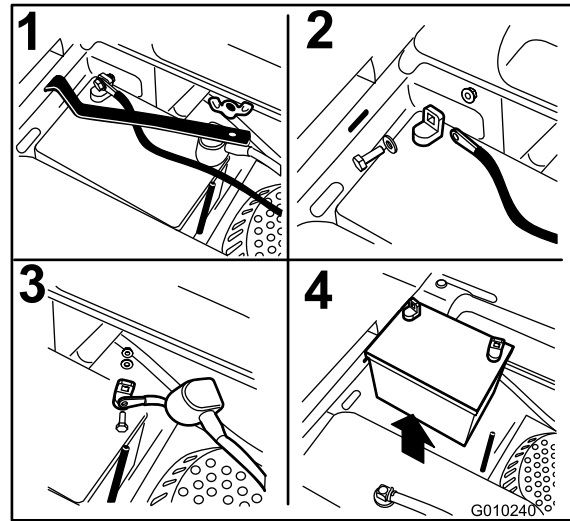

Figure 46
3. Remove the wing nut securing the battery clamp (Figure 46).
4. First disconnect the negative battery cable (black) from the negative (-)(black) battery terminal (Figure 46).
5. Slide the red terminal boot off the positive (red) battery terminal and remove the positive (+)(red) battery cable (Figure 46).
6. Remove the clamp (Figure 46).
1. Position battery in the tray with the terminal posts opposite from the hydraulic tank (Figure 46).
4. Secure the cables with 2 bolts, 2 washers, and 2 locknuts (Figure 46).
6. Install the clamp and secure it with the wing nut (Figure 46).